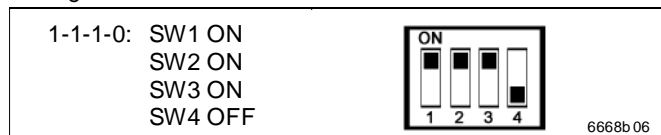

Fig. 40 DIP switch – configuration mode
- Set the DIP switches 12 (see view Fig. 2) as shown in Fig. 40: